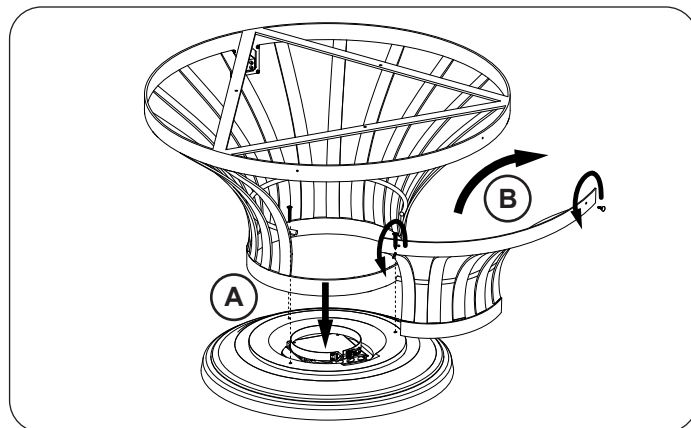

Fig. 37-1 Place base, fasten, and remove door
1. **Carefully** remove the valve and burner assembly from the base, then **carefully** place the base bottom and base in an appropriate location (see Fig. 37-1, A, and refer back to the LOCATION section if needed).
2. Use a Phillips screwdriver and the supplied concrete screws (3) to fasten the base bottom to the base as shown in Fig. 37-1, A.
3. Remove the storage door by first turning the two thumb screws counter-clockwise, then carefully pulling the door up and outward (see Fig. 37-1, B). Store in a safe location.